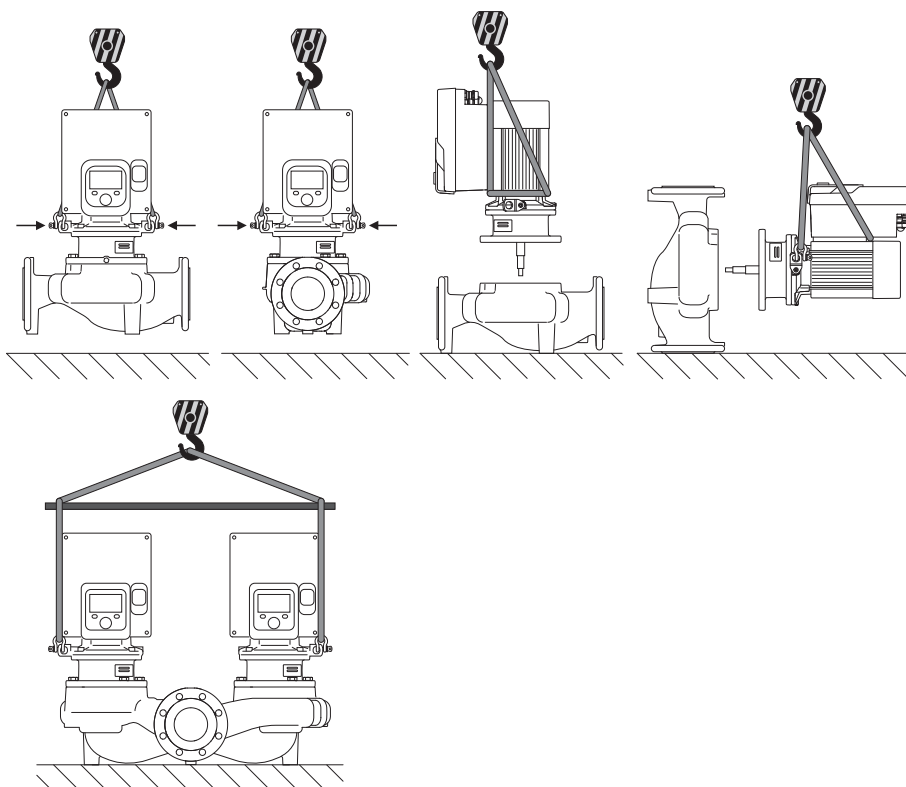

Fig. 6: Lifting direction
The pump must be transported using approved lifting gear (hoist, block and tackle, etc.). The lifting gear must be attached to the transport lugs at the motor flange. Slide the lifting loops under the adapter plate, if necessary (Fig. 6).
2. Attach motor impeller unit (Fig. 4) to the transport lugs with suitable lifting equipment for protection. To prevent the unit from tipping, place a belt loop around the motor and adapter of the electronic module as shown in Fig. 6. When attaching, avoid damaging the electronic module.